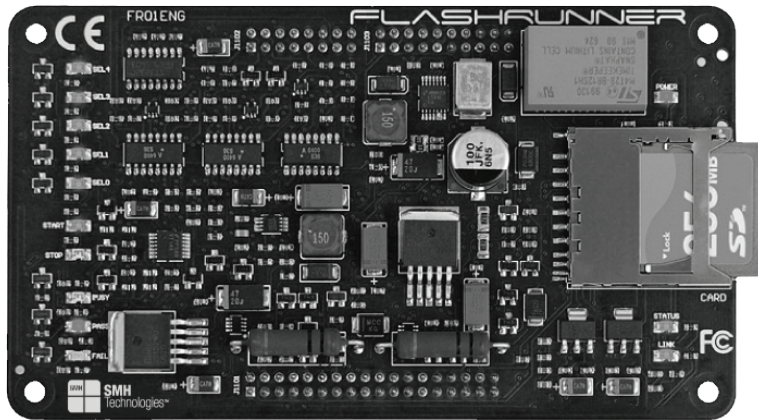

Figure 1.2: FlashRunner Bottom Layer (LEDs Side)
- Figure 1.2: FlashRunner Bottom Layer (LEDs Side) 14